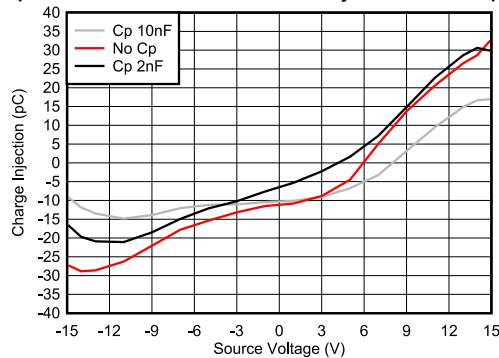

Figure 9-2. Charge Injection Compensation
The TMUX620x contains specialized architecture to reduce charge injection on the Drain (Dx). To further reduce charge injection in a sensitive application, a compensation capacitor (C_p) can be added on the Source (S). This will push excess charge from the switch transition into the compensation capacitor on the Source (S) instead of the Drain (D). As a general rule, C_p should be 20x larger than the equivalent load capacitance on the Drain (D). Figure 9-2 shows charge injection variation with different compensation capacitors on the Source side. This plot was captured on the TMUX6219 as part of the TMUX62xx family with a 100 pF load capacitance.